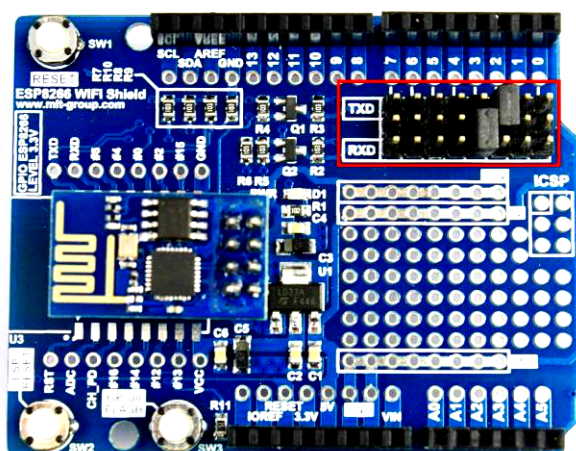

Figure 6. Jumper selection
1. Connect this ESP8266 WIFI Shield to your Arduino board. For this example is Arduino UNO board then you jump (enable) D2 pin by a jumper TXD and jump (enable) D3 pin by a jumper RXD as figure 6.